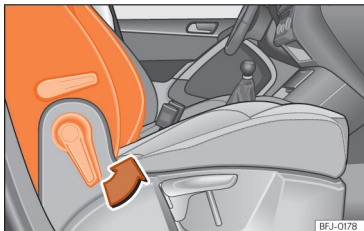

Fig. 3 Front passenger seat: adjusting the seat backrest
- Move the lever in the direction of the arrow » **Fig. 3**, and adjust the backrest to the desired position.